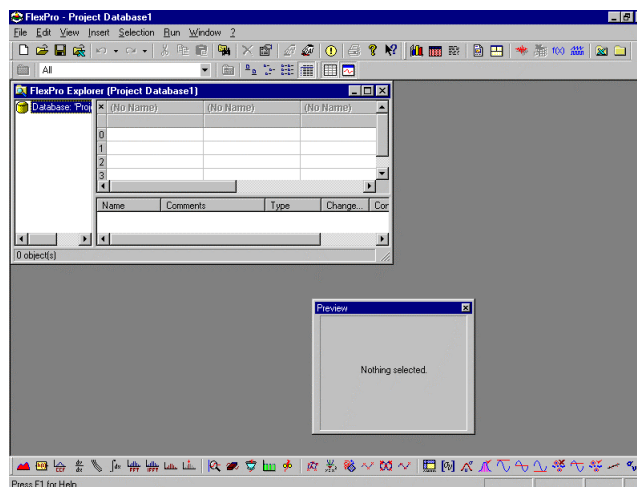

Figure 0.4: Program desktop after closing the Help
*Note:* If you want to become familiar with FlexPro's powerful help function, you should turn to the appropriate explanations in the appendix (see appendix II). But if you would like to get started with the practical work with FlexPro as quickly as possible and want to proceed according to the motto "learning by doing", close the help at this point and continue with the rest of this introduction of the program surface. People really in a hurry flick to chapter 1 immediately, that is based on the program status, resulting in closing the help (see Fig. 0.4).
Closing the *FlexPro 5.0 Online Help* makes further FlexPro elements visible on screen. As can be gathered from the title bar of the FlexPro window, we are working at the moment with a file named *Project Database1* which was automatically created and opened. The so called FlexPro Explorer as well as a small window named *Preview* can be seen on the worktop apart from a number of toolbars (Fig. 0.4).